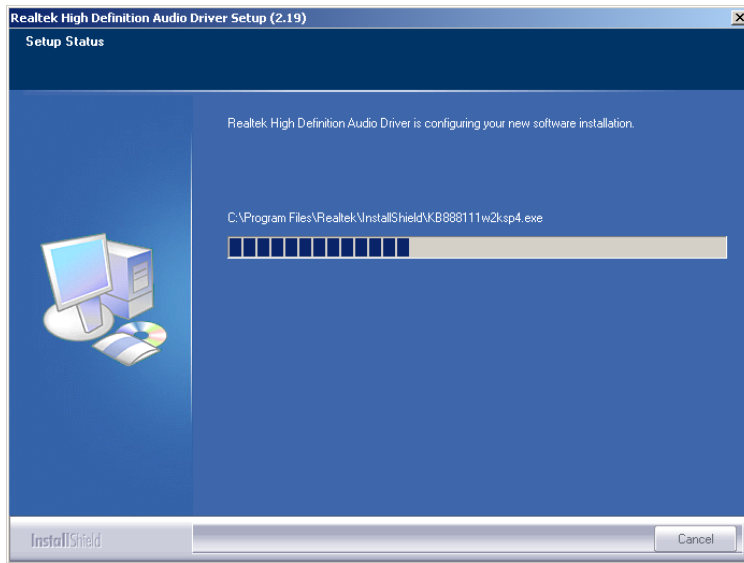

Figure 6-35: Audio Driver Software Configuration
Step 8: InstallShield starts to install the new software as shown in **Figure 6-35**.